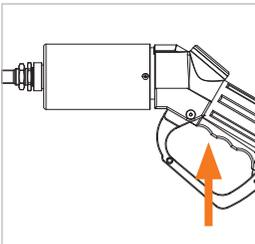

Figure 22
- ▶ Pull the actuation lever (Pos. 7) on the hand grip (Pos. 8) on the hand grip of the fueling nozzle fully up to its ON position (Figure 22) until it engages with an audible click and the green ring is visible (Figure 13 on page 26). **The actuation lever (Pos. 7) must be engaged before the leakage test can begin!**